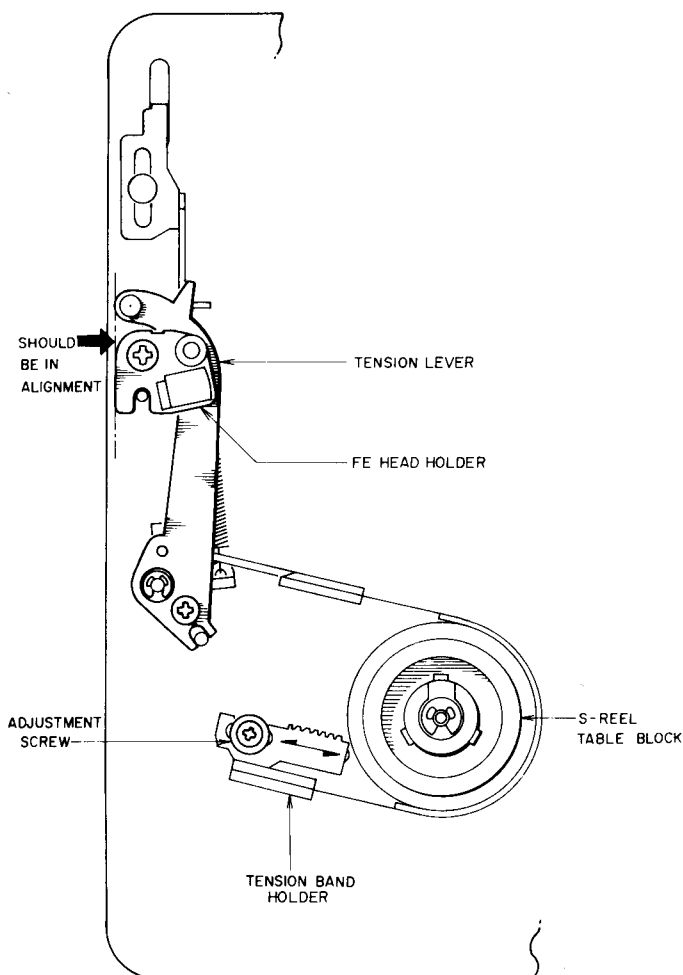

Fig. 5-3
ADJUSTMENT (Refer to Fig. 5-3)**
- 4) Loosen the adjustment screw and adjust the Tension Band holder so that the tension lever and Full Erase head holder are in alignment as shown in Fig. 5-3, and tighten the adjustment screw.